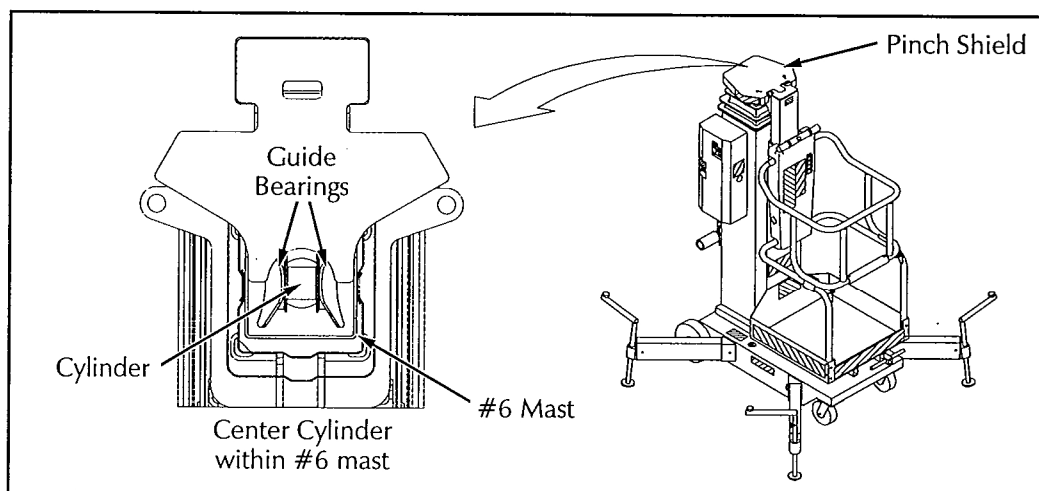

Figure 5
18. Remove pinch shield (figure 5) from the top of the mast assembly and check alignment of the cylinder within the mast assembly by looking down the inside of the mast with a flashlight. The cylinder guide bearings must not be touching the inside surface of #6 mast. Center the cylinder within the mast assembly by tightening the left or right tie rod nuts to move the cylinder left or right respectively. Fore / aft alignment may be achieved by shimming between #3 bottom casting and the cylinder base. If fore / aft alignment is necessary, contact UpRight product support department to obtain shims and instructions.